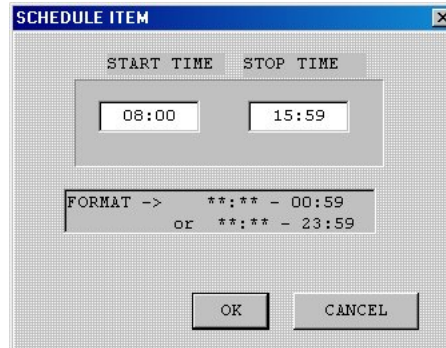

Figure 3.8 - Shift Time Entry.
4. Enter the start and stop times in 24 hour format with a colon as shown in *Fig. 3.8*.